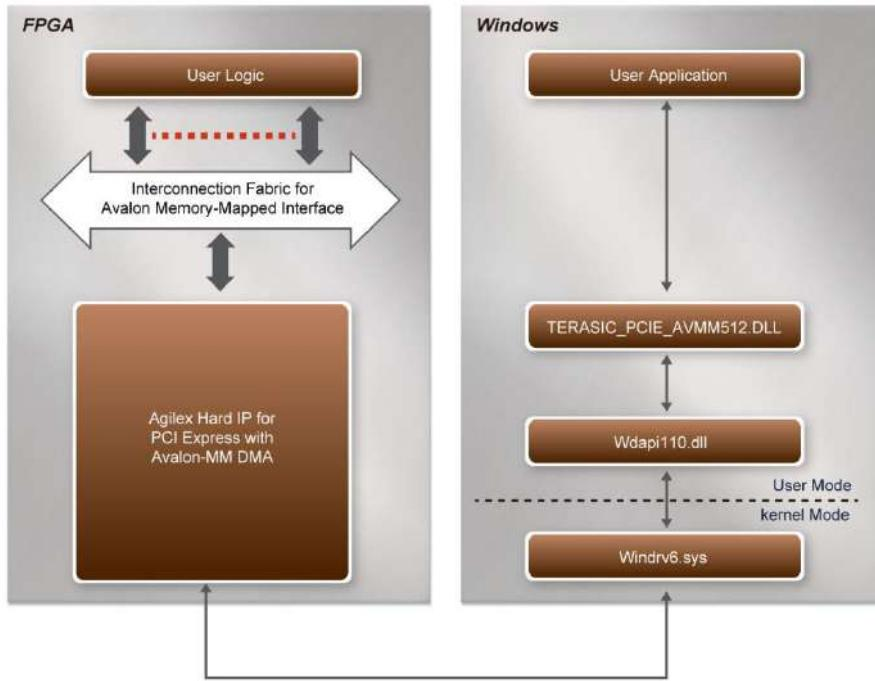

Figure 7-1 Infrastructure of PCI Express System
**Figure 7-1** shows the infrastructure of the PCI Express System in this demonstration. It consists of two primary components: FPGA System and PC System. The FPGA System is developed based on Agilex Hard IP for PCI Express with Avalon-MM DMA. The application software on the PC side is developed by Terasic based on Intel's PCIe kernel mode driver.